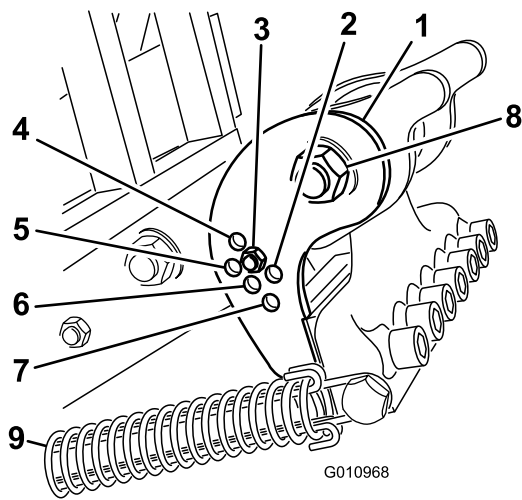

Figure 27
Set the camber bracket (Figure 27) to the correct position based on the length of tines to be used. The head stop is set to one of five predetermined positions by choosing the hole through which the adjustment rod is bolted. These holes are presets only; for instance, by using a 10 inch tine in the 12 inch position you may achieve a smoother finish; depending on the application.
3. Release the spring tension to the tine head (Figure 27).
4. Remove the nut and bolt in the adjustment holes in the camber bracket (Figure 27).
5. Loosen the tine head pivot bolt (Figure 27).